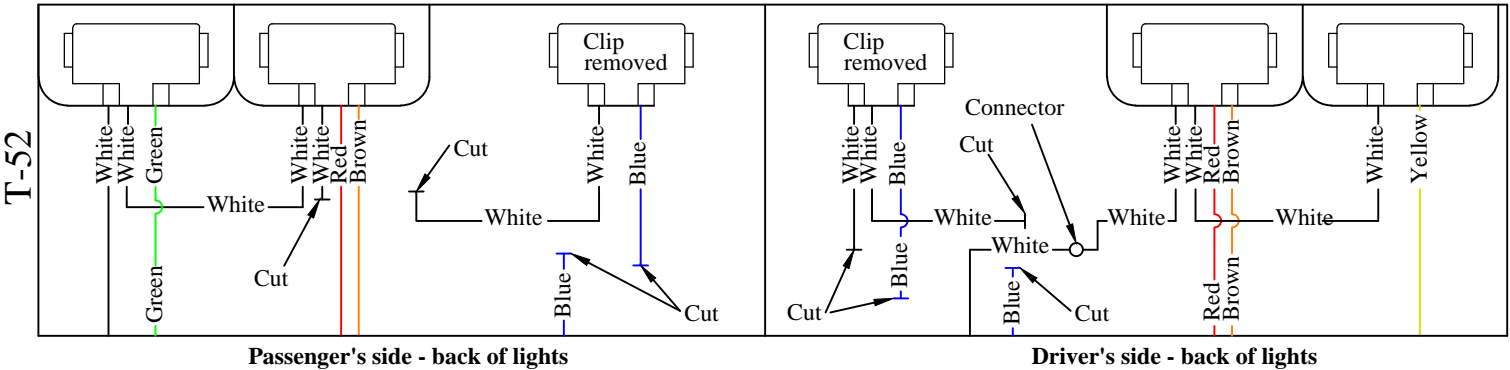

Figure 18: Light kit wiring diagram.
3. Prepare the harness provided according to the wiring diagram (Figure 18).